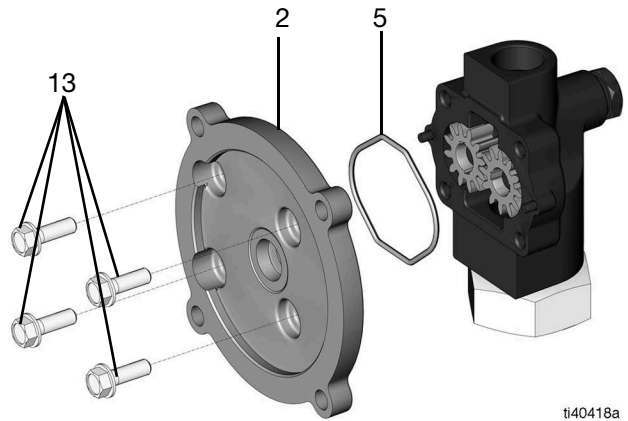

FIG. 9
7. Remove four screws (13) on the adapter plate (2) using a 1/2 in. socket wrench (FIG. 9).
8. Remove the adapter plate (2) (FIG. 9).
9. Remove the o-ring (5) (FIG. 9).
4. Push the four screws (13) through the adapter plate (2) and use a 1/2 in. socket wrench to tighten (Torque 30 ft-lbs, 40.7 N•m) (see FIG. 9).